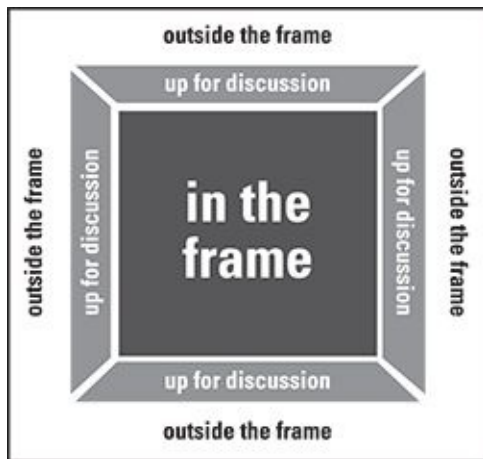

Figure 4-1: The In Frame/Out of Frame tool.
1. **Draw a picture frame, resembling the one shown in Figure 4-1, on a flipchart.**